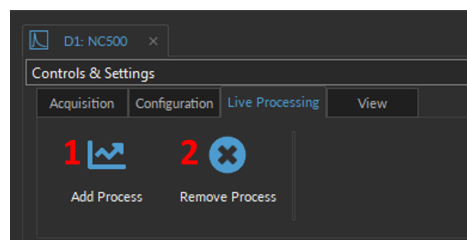

Figure 11.65: Live Processing Tab
1. The **Add Process** button (Fig. 11.65, 1) creates preset configurations where a live computation (such as filter, decimation, and/or demodulation) is applied in real-time as the data is collected. Some preset options create both input and output channels required for the process (e.g. **Lock-In**, **Interleaved**, and **Ephys**). Each preset configuration is treated in separate sections, as in Table 11.3.
2. The **Remove Process** button (Fig. 11.65, 2) deletes the selected preset. Only one preset option (and all its dependencies) can be deleted at a time. This option is permanent and cannot be recovered unless the settings were already saved using the **Save Configuration** button (Fig. 11.23, 4).